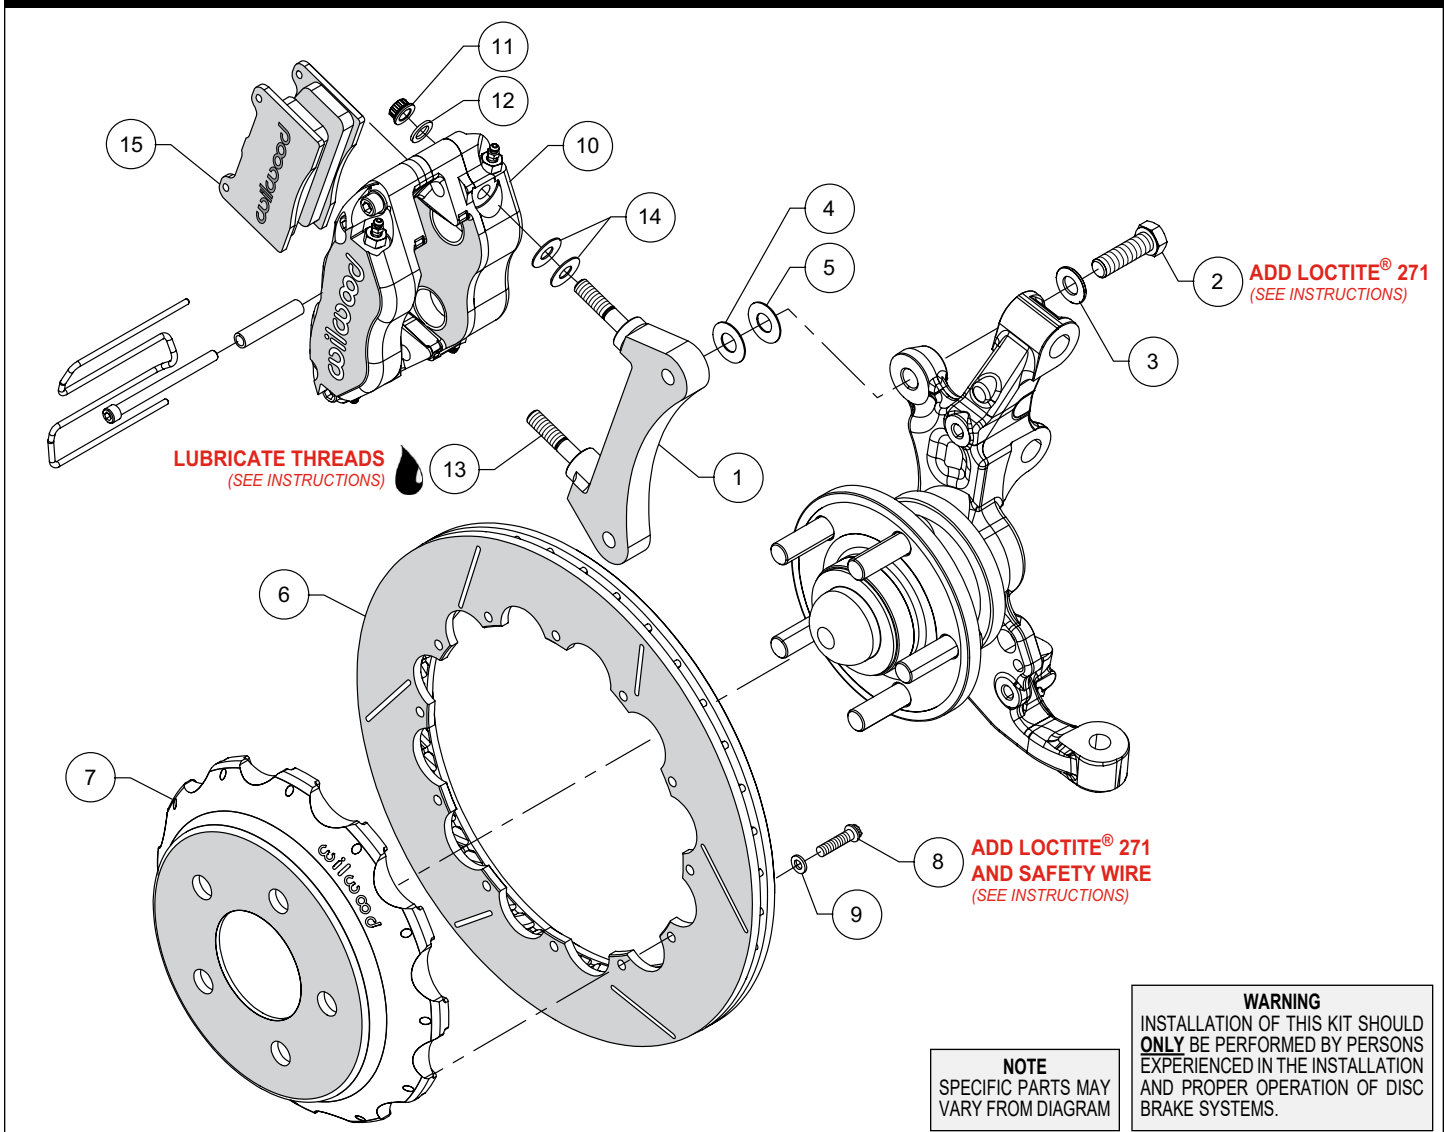
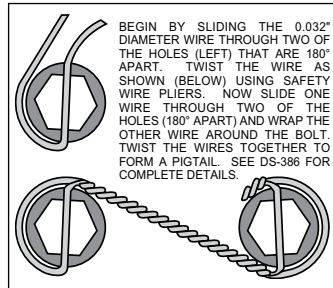

Figure 1. Typical Installation Configuration
Figure 3. Safety Wire Diagram
NOTE: Numbers in parenthesis refer to the parts list and Figure 1 on the preceding pages.
- The caliper mount bracket (1) should initially be installed with clean, dry threads on the mounting bolts. Orient the bracket, as shown in Figure 1 and Photo 1, and install using bolts (2) and washers (3). Initially place one .033" thick shim (4) on each bolt between the bracket and upright, Figure 1. Temporarily tighten the mounting bolts. **NOTE:** The bracket must fit squarely against the mount bosses on the upright. Inspect for interference from casting irregularities, machining ridges, burrs, etc. Later, after the caliper alignment has been checked, the mount bolts will be secured using red *Loctite*® 271.
- Orient the rotor (6) and the hat (7) as shown in Figure 1 and Photo 2. Attach rotor to hat using bolts (8) and washers (9). Apply red *Loctite*® 271 to the bolt threads and torque to 155 in-lbs using a criss-cross pattern. Safety wire the bolts using standard 0.032 inch diameter stainless steel safety wire as shown in Figure 3. Refer to Wilwood's data sheet DS-386 (available at www.wilwood.com/Pdf/DataSheets/ds386.pdf) for complete safety wire installation instructions.
- Lubricate the caliper mounting studs (13) with lightweight oil. Initially place two .035" thick shims (14) on each stud as shown in Figure 1 and Photo 4. Mount the caliper (10) onto the bracket (1) using lock nuts (11) and washers (12), Figure 1. Temporarily tighten the lock nuts and view the rotor through the top opening of the caliper. The rotor should be centered in the caliper, Photo 5. If not, adjust by adding or subtracting shims (4 and/or 5) between the bracket and the mounting bosses. Once the caliper alignment is correct, remove the bracket mounting bolts one at a time, apply red *Loctite*® 271 to the threads, and torque to 60 ft-lbs.
- Insert the brake pads (15) into the caliper with the friction material facing the rotor (6), as shown in Figure 1 and Photo 6. Check that the top of the brake pad is flush with the outside diameter of the rotor, Photo 7. If not, adjust by adding or subtracting shims (14) between the caliper and the bracket. After the caliper pad height is set, torque the caliper lock nuts (11) to 30 ft-lb. Secure the pads in place using the pad clip retainer as well as the center bridge pad retainer tube, bolt, and locknut, Photo 8. The locknut should be snug without play in the bolt or tube. Be cautious not to over tighten.